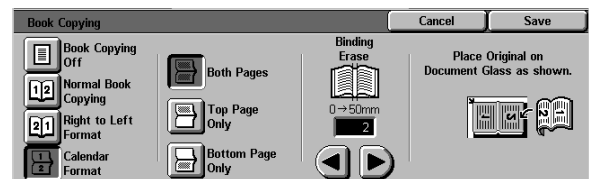

Figure 13: Book Copying screen with Calendar Format selected
- 2 Touch the **Calendar Format** icon as in Figure 13.